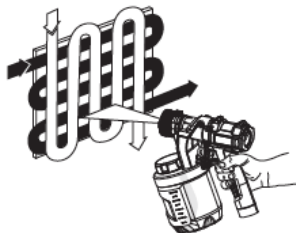

Fig. 13
5. Another option for spraying is the crisscross pattern, which is accomplished by spraying in horizontal strips and then crossing over these strips with vertical strips (Fig. 13).